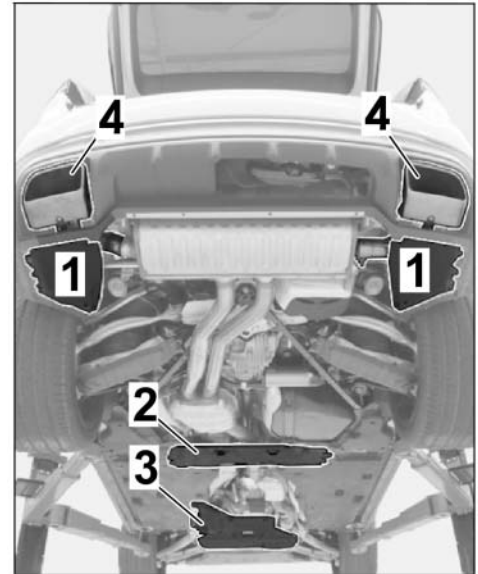

Figure 11
1.9.1 Remove rear underbody cover and rear tunnel cover. ⇒ *Figure 11 -1 and 2-*, ⇒ *Workshop Manual '519419 Removing and installing cover for rear underbody'*
1.9.2 Remove tailpipe (left/right). ⇒ *Figure 11 -4-*, ⇒ *Workshop Manual '263419 Removing and installing tailpipe'*
- Remove front underbody cover (rear section). ⇒ *Figure 11 -3-*, ⇒ *Workshop Manual '519219 Removing and installing cover for front underbody cover'*